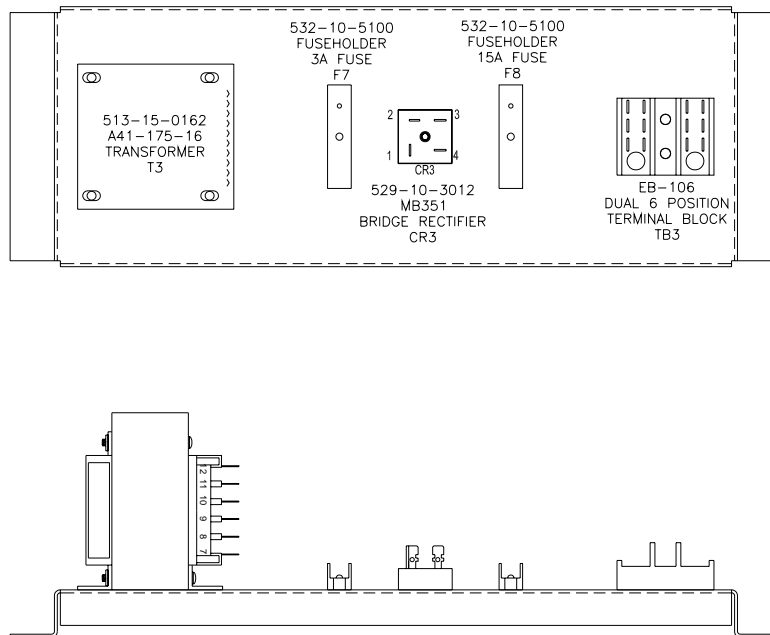

Figure 9 Power Components
2. Disconnect the two gray data cables and the J7 wire assembly from the LX driver board on rear of the panel. Figure 9 shows the components behind the panel.